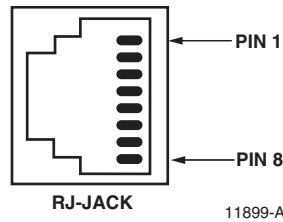

Figure 3. RJ45 Connector Wiring
2. Pinout information is shown in Table 1. See Figure 3 for RJ45 connector wiring information.